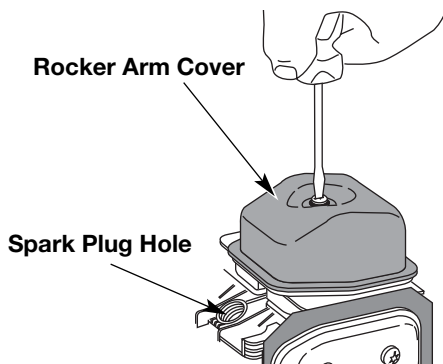

Figure 39
7. Clean dirt from around the rocker arm cover. Remove the screw holding the rocker arm cover with a large flat blade screwdriver or Torx T-25 bit. See Figure 39. Remove the rocker arm cover and gasket.
- The piston is at the top of its travel while looking in the spark plug hole. See Figure 39.